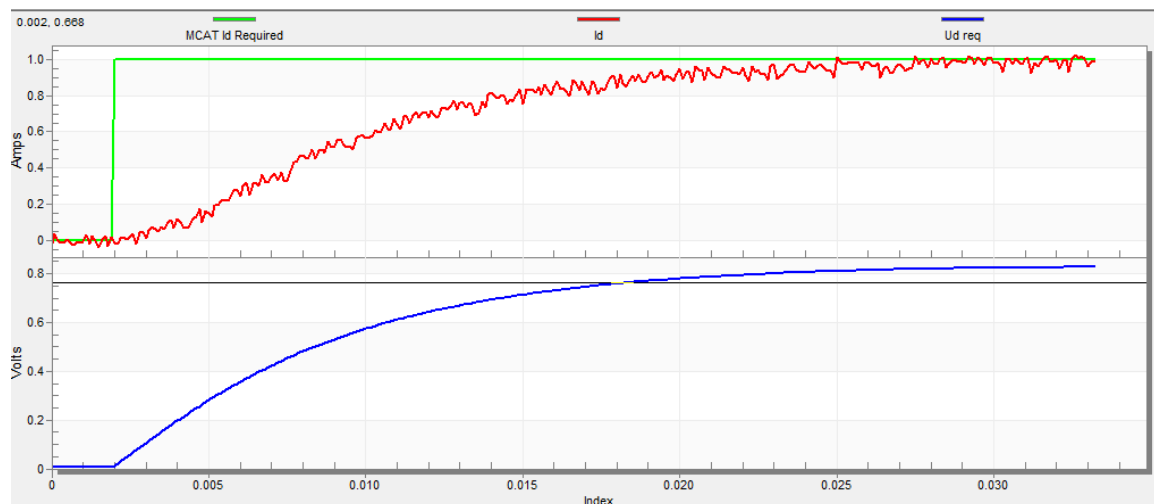

Figure 27. Slow step response of the Id current controller
- The loop bandwidth is low (110 Hz) and the settling time of the I_d current is long (see Figure 27).